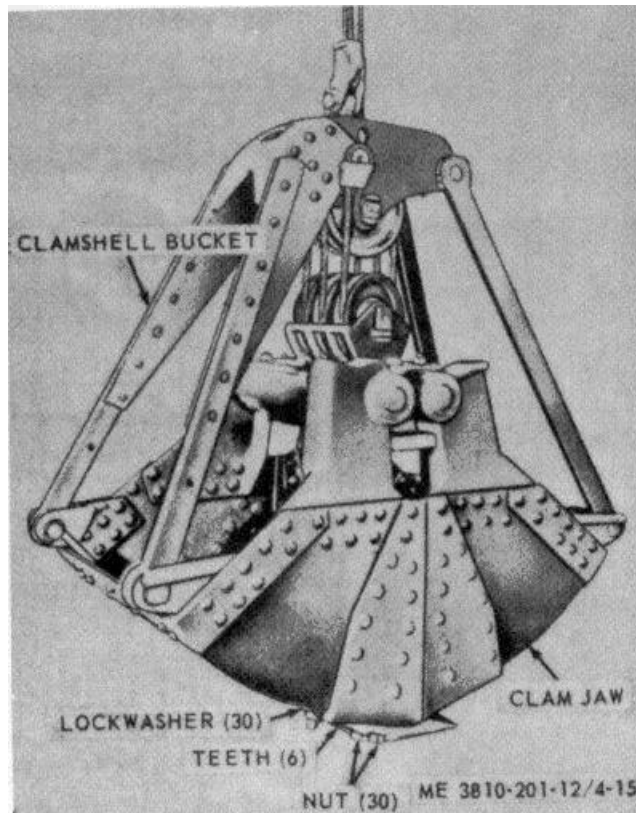

Figure 4-15. Clamshell bucket teeth replacement.
(1) *Removal.* Position bucket on its side, remove 30 nuts, (fig. 4-15), lockwashers, and bolts, and six teeth from clam jaws.
jaws (fig. 4-15), and secure with bolts, lockwashers, and nuts.